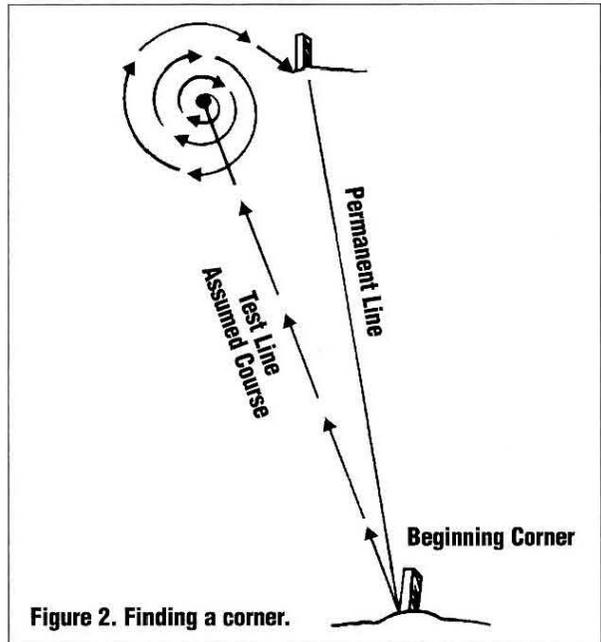

Figure 2. Finding a corner.
3. At the end of the the test line, search for evidence of the old corner. This can be done by walking in an ever-enlarging series of concentric circles (Figure 2). The evidence may be very meager: a pile of stones, rusted pipe, rotted stake or slight irregularity in the terrain where the corner once was.